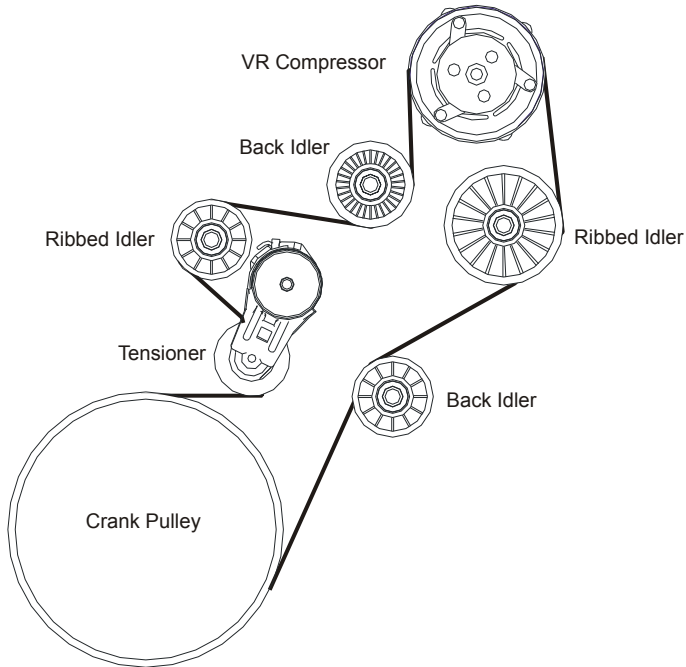

Figure 5.5
- ☐ Install the OEM belt and then the VR drive belt (Figure 5.5).